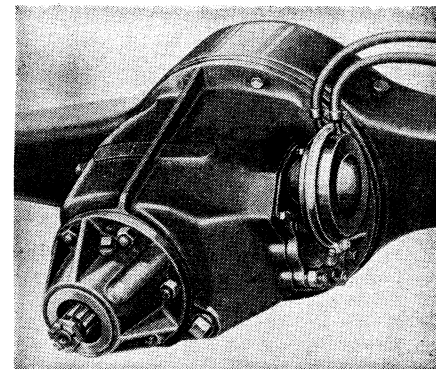
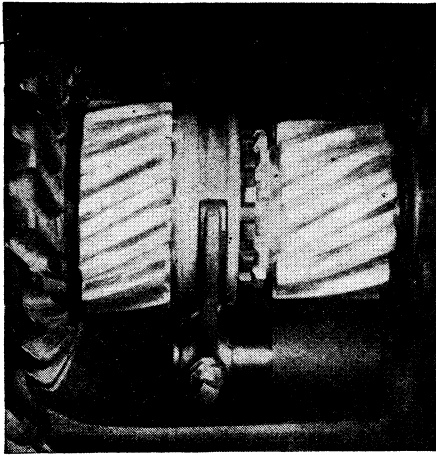

Fig. 13 Side mounted power actuated shift unit
Fig. 14 Showing shift fork lock screw and nut
17. To remove the side mounted power unit, Fig. 13, loosen lock nut on shift fork lock screw and remove screw and nut, Fig. 14. Remove two shift unit stud nuts and lock washers. Remove shift unit and shaft and lift out shift fork. Remove third nut and lock washer. Tap sleeve and bushing assembly from carrier with a soft mallet. Wire shim pack to keep intact to facilitate adjustment on reassembling.